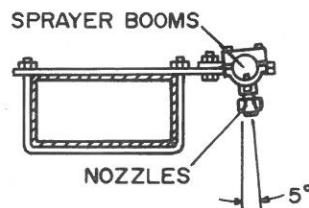

Fig. 13
STEP 11: BEFORE TIGHTENING RIGHT, LEFT AND CENTRE SPRAYER BOOMS ROTATE SPRAYER BOOM SO AS TO PLACE SPRAYER NOZZLES AT AN APPROXIMATELY 5° FRONT ANGLE AS SHOWN IN FIG. 13. THEN TIGHTEN SPRAYER BOOMS IN PLACE.